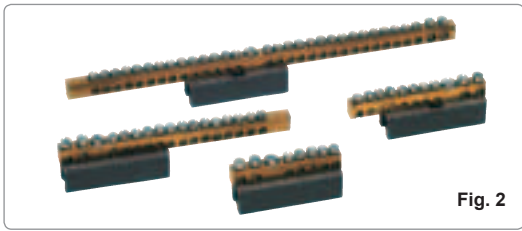

Fig. 2
- Models **NSYRBLZ** (Fig. 2) with insulating plinth for fitting under pressure on 12 x 2-mm rail.